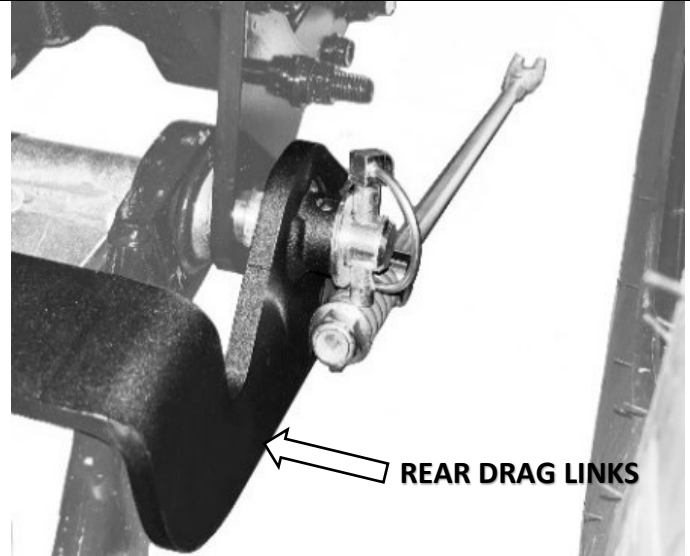

Figure 2B
2. Mount the Rear Drag Links in place of the Spacers previously removed (Figure 2B). Install both sides.